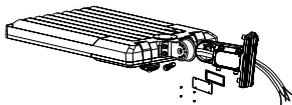

Figure 7
Step 1: Remove the bracket mounting screws on the fixture, run the wires through the bracket. (Figure 7)